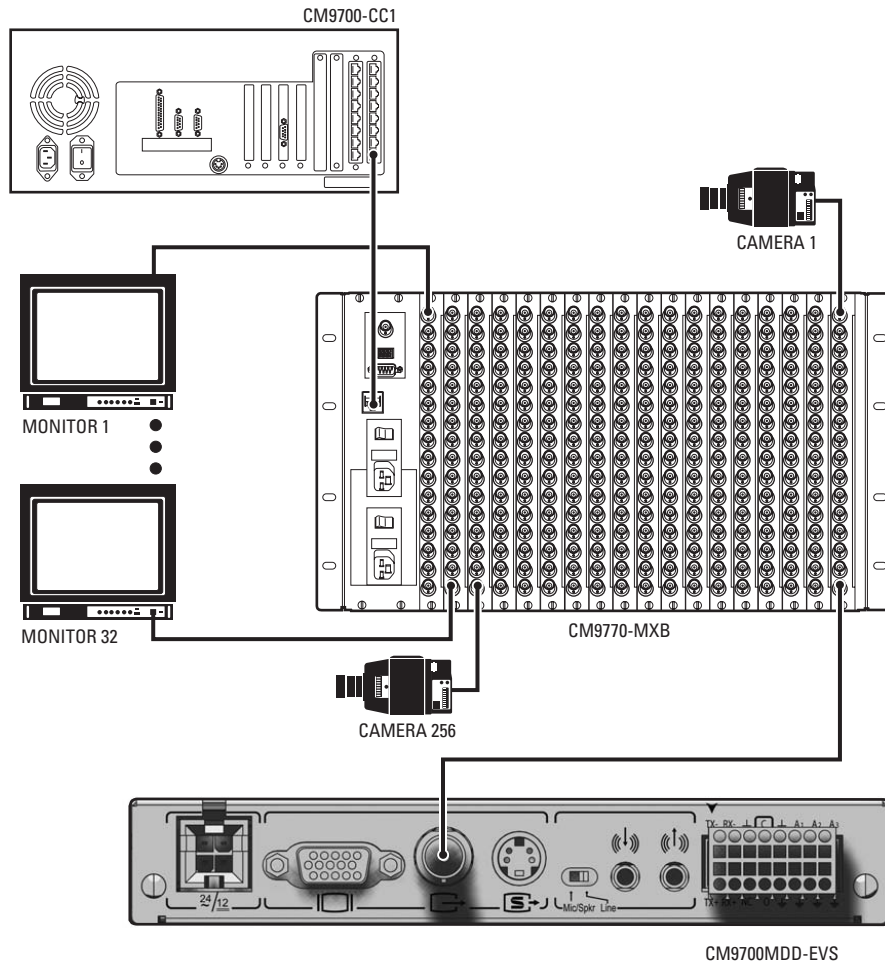

Figure 15. Sample Video Connection Between the CM9700MDD-EVS and the CM9770-MXB
- In a System 9770, video input connectors are on the CM9770-MXB rear panel, as shown in Figure 15 on page 19.
NOTE: Figure 15 illustrates a sample video connection. Video from the CM9700MDD-EVS can be connected to any unused input on the matrix bay.